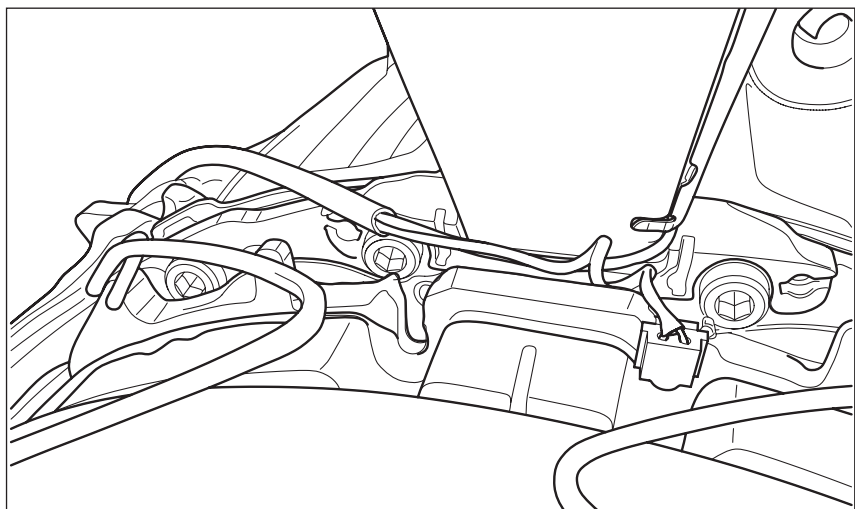

Figure 16
2. Fit inboard PWWI sensor to pad slot. Ensure PWWI trailing lead to plug is routed under pad retainer. (Figure 16)